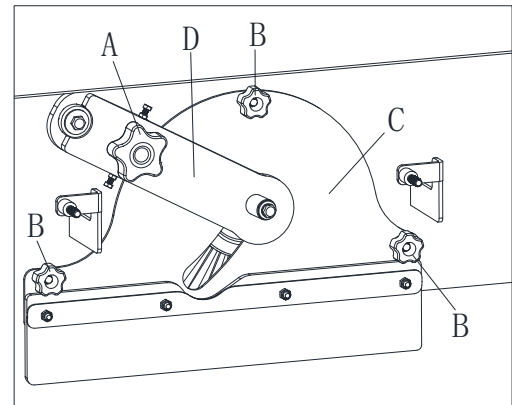

Figure 23
4. Unscrew the knob (A, Figure 23) and remove the drive hub bracket (D, Figure 23).
5. Unscrew the knobs (B, Figure 23) and remove the broom compartment cover (C, Figure 23).
12. Install the drive hub bracket (D, Figure 23) by tightening the knob (A, Figure 23).